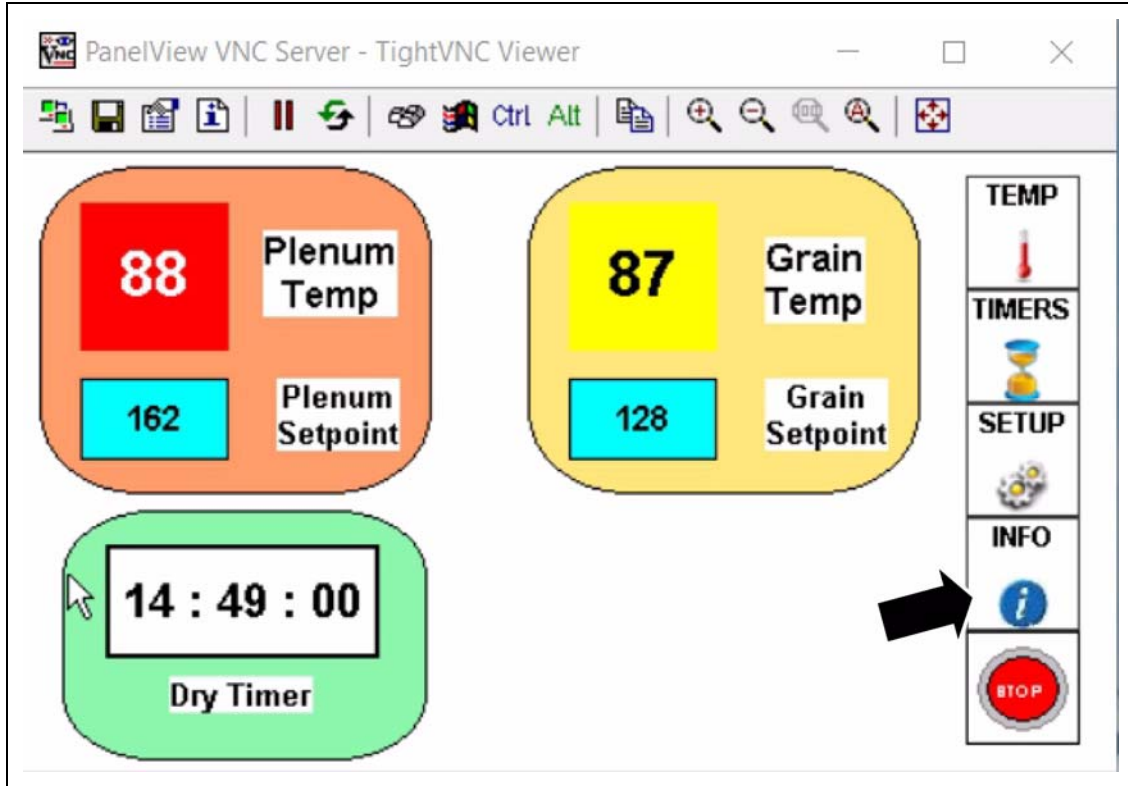

Figure 3A
1. Press Info button. (See Figure 3A.)